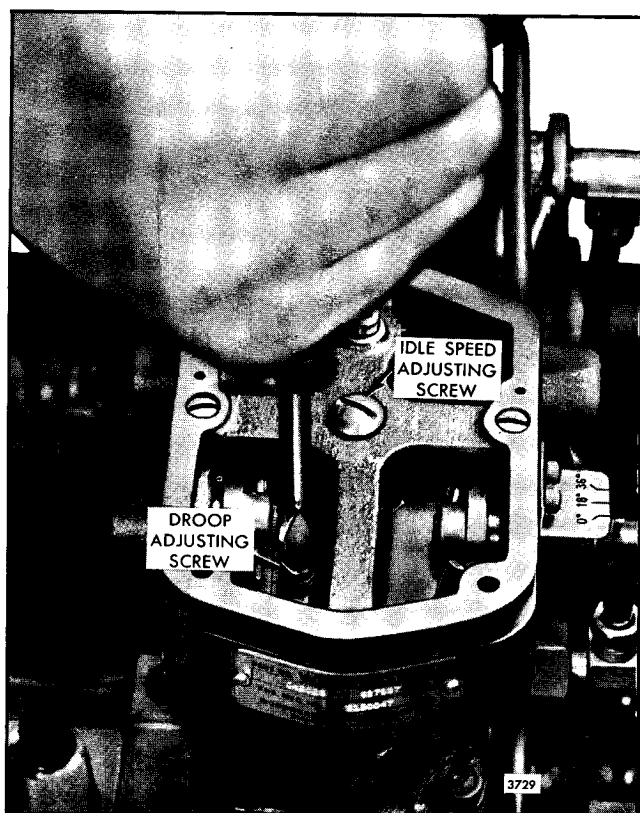

Fig. 7 - Adjusting Speed Droop
2. Set the governor speed droop bracket at its mid position (Fig. 7). After the other adjust-